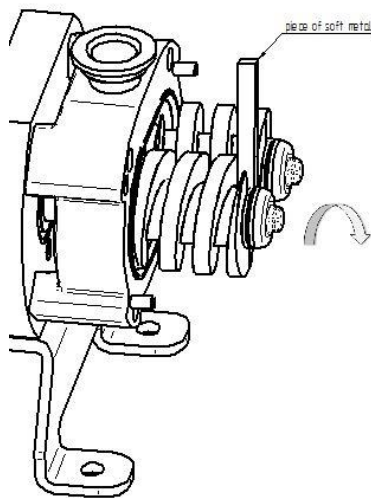

Fig. 35 – assembly of CCW screw
- Type 2: electric motor CCW direction of rotation. Position of the screws and fluid direction as shown in Fig.35, discharge side on the side of the pump.